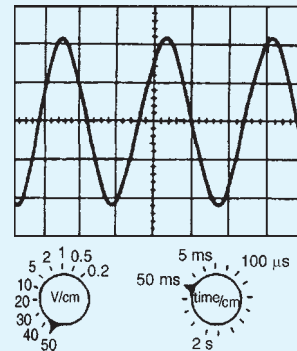

Figure 10.23
3. For the sinusoidal waveform shown in Fig. 10.23, determine (a) its frequency,